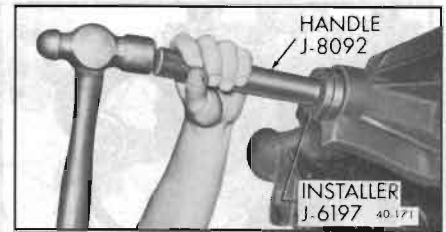

Figure 40-160—Installing Front Pinion Bearing Outer Race
1. Drive front pinion bearing outer race against shoulder on carrier using Replacer J-6197 with driver handle. See Figure 40-160.